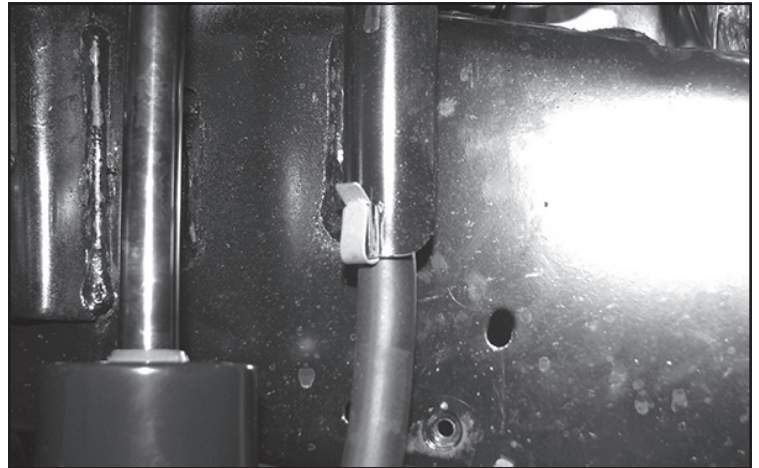
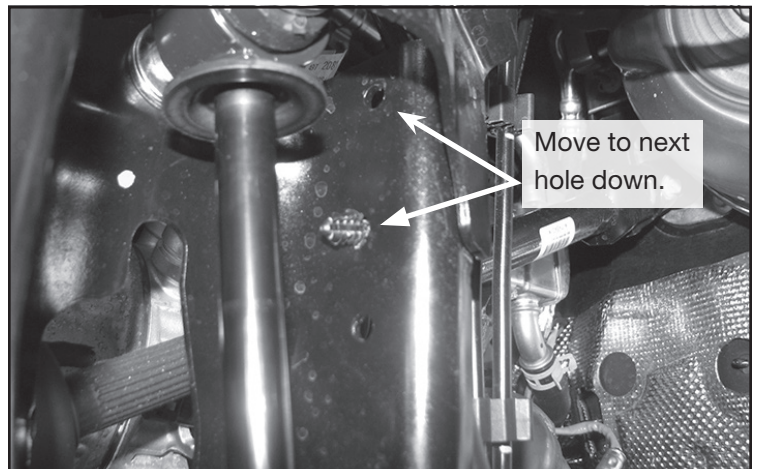

FIGURE 18 - STEP 18
FIGURE 19 - STEP 18
18. Reinstall the diff breather hose by moving the metal clip up the hose 2" **SEE FIGURE 18** and the christmas tree fastener into the next hole down. **SEE FIGURE 19.**